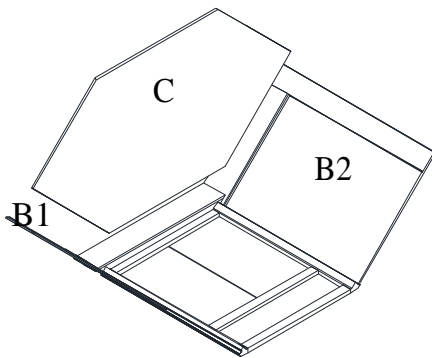

Figure 3
3. Installing the Bottom (Figure 3): Gently spread the side panels and insert the bottom (C) into the grooves of side panel (B1,2) until it touches the face frame (A). Align it and lock each cam.